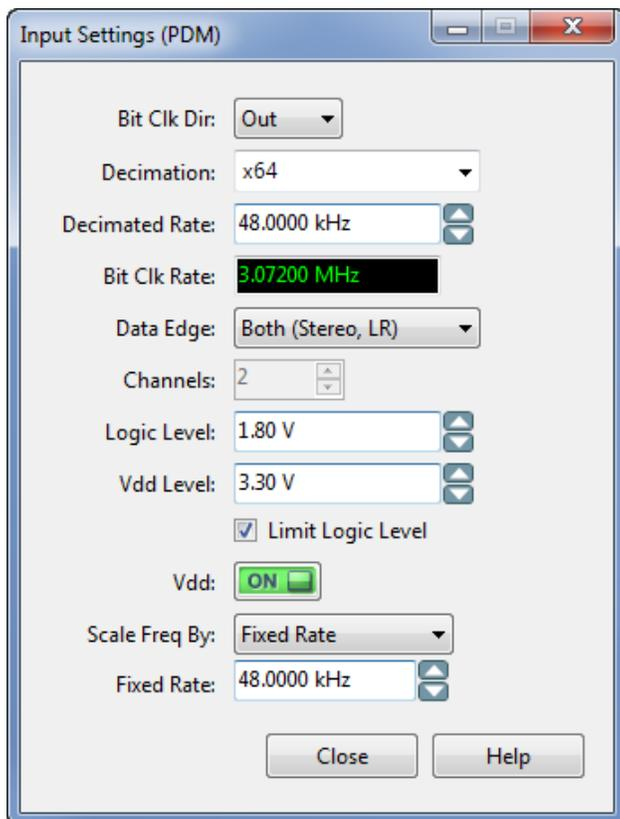
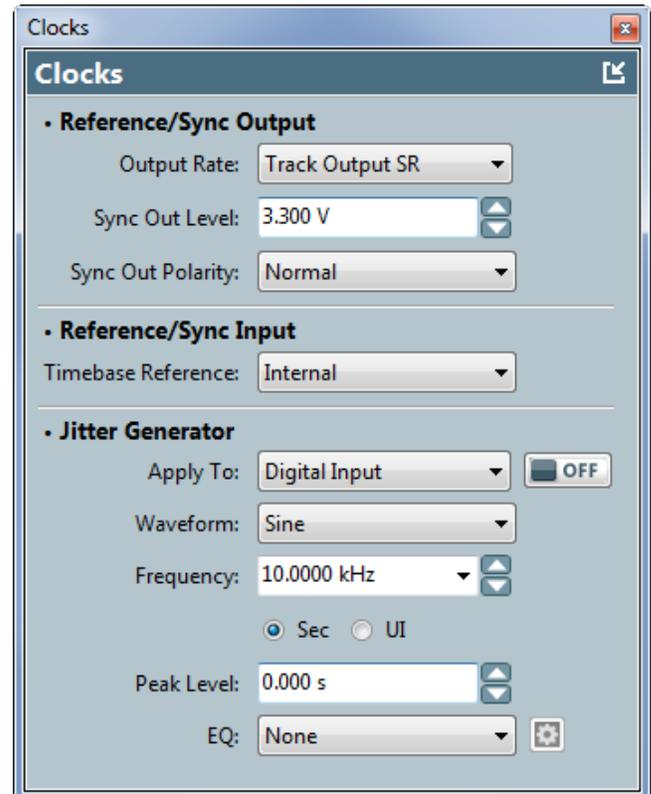
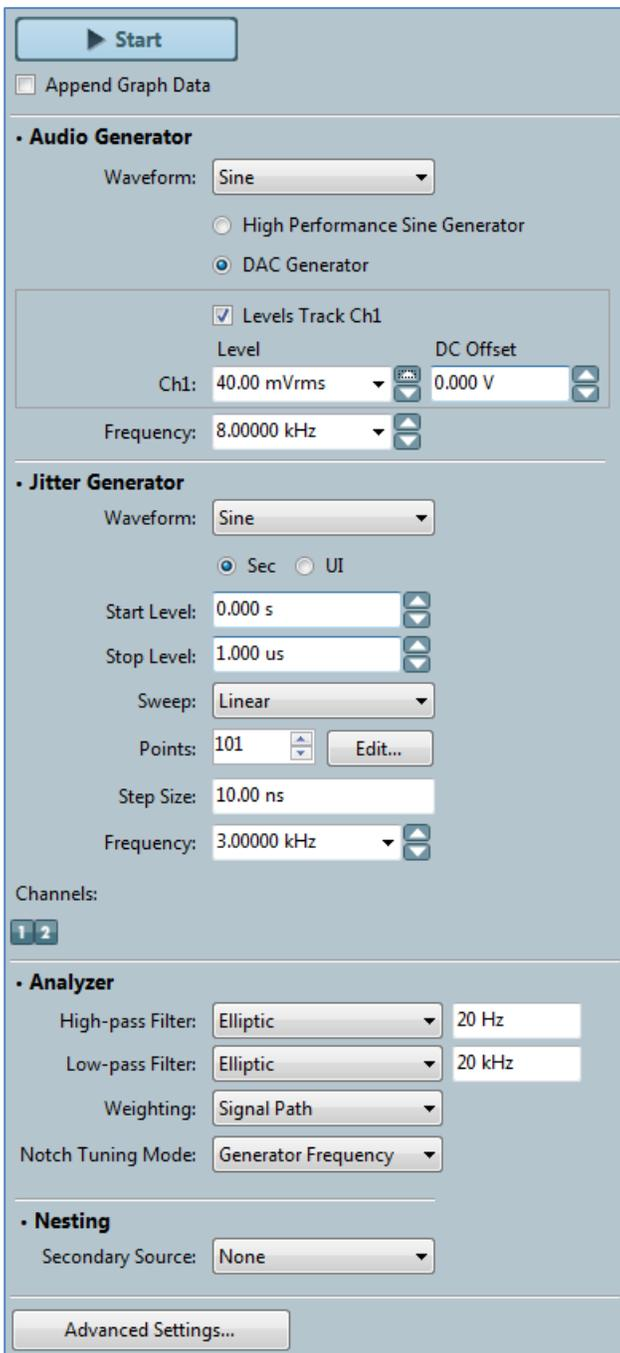

Figure 10. PDM Input Settings Panel configured for MEMS microphone tests.
Figure 11. APx Clocks panel setup to jitter the output bit clock on the PDM input connected to a MEMS microphone.
Figure 12. Jitter Level Sweep measurement settings for MEMS microphone jitter tolerance testing.
This can be easily setup with the APx analyzer **PDM Input Setting Panel** (Figure 10), **Clocks Panel** (Figure 11), and **Jitter Level Sweep** measurement (Figure 12).
1. On the **PDM Input Settings** Panel (Figure 10)
2. On the **Clocks** Panel (Figure 11), **Jitter Generator**:
3. Perform a **Jitter Level Sweep** in Sequence Mode (Figure 12).